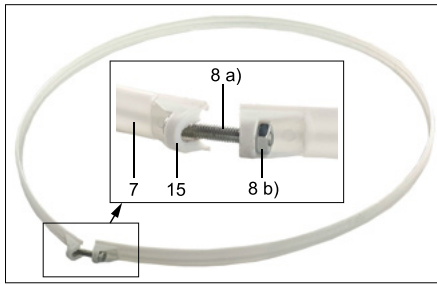

Fig. 15: Mounting fixing strip
6. Push the rotor (8) onto the motor axle (12). *The small transverse axis (14) at the end of the motor axis must lie in the recess of the rotor attachment. See Fig. 15 a).*
7. Place the nut (9) on the rotor.
8. Tighten the nut clockwise. See Fig. 15 b).